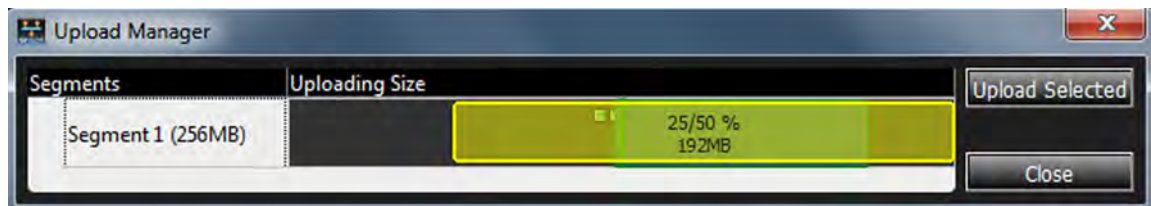

Figure 3.31: Upload Manager Dialog: Moving the Beginning of the Trace
2. To upload the entire Trace (in this case 256MB) or shrink the size of the Trace, place the cursor over the beginning or ending of the Trace and pull the edges toward the trigger point. See figures 3.31 and 3.32.